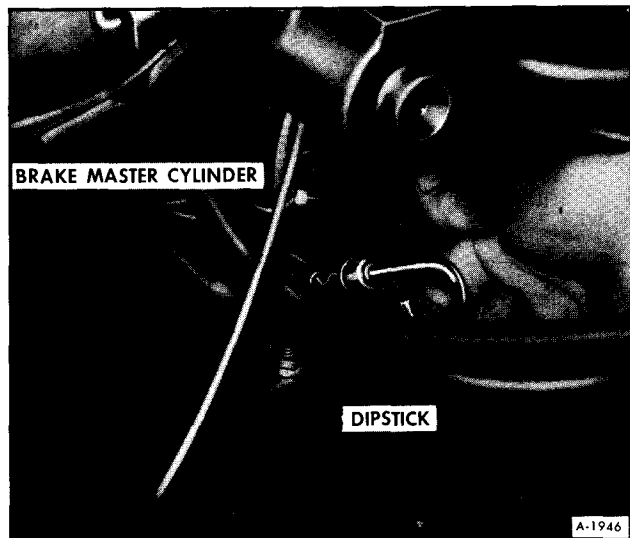
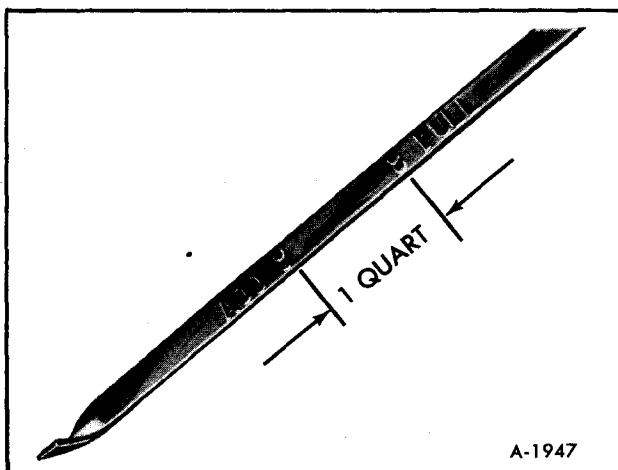

Figure 13—Removing Engine Oil Dipstick
Figure 14—Engine Oil Dipstick
The engine oil should be maintained at the proper level. The best time to check it is before operating the engine or as the last step in a fuel stop. This will allow the normal oil accumulation in the engine to drain back into the crankcase. To check the level, remove the oil level dipstick located inside the left front access door (See figure 13) wipe it clean and reinsert it fully for accurate reading. The oil level dipstick is marked "FULL" and "ADD." (figure 14) The oil level should be maintained within the margin, neither going above the "FULL" line nor below the "ADD" line. Reseat the dipstick firmly after taking the reading. One (1) quart will raise the oil level from "ADD" to "FULL."